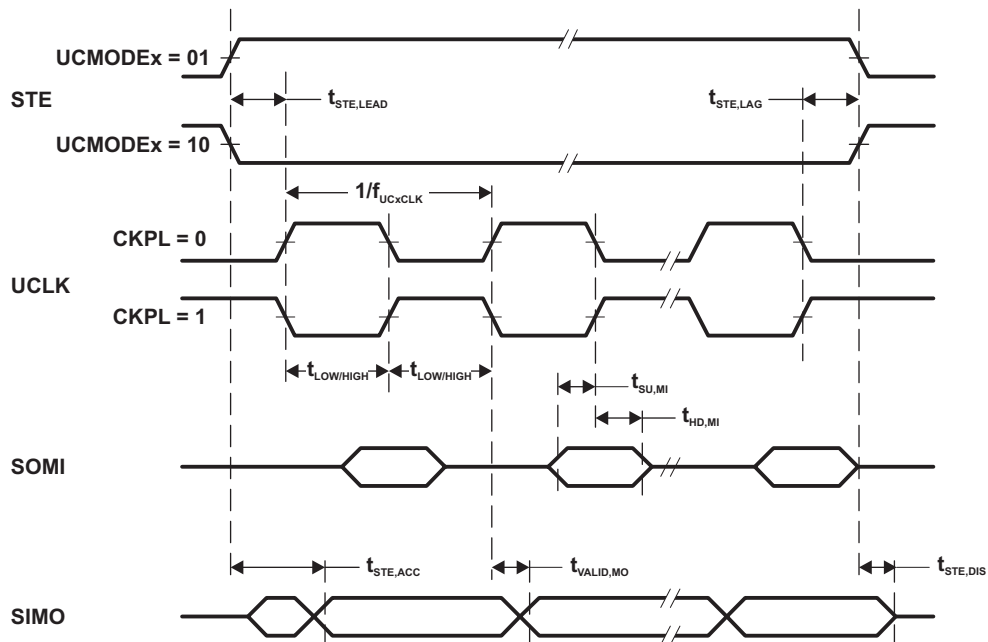

Figure 5-11. SPI Master Mode, CKPH = 0
- (2) Specifies the time to drive the next valid data to the SIMO output after the output changing UCLK clock edge. See the timing diagrams in Figure 5-11 and Figure 5-12.
- (3) Specifies how long data on the SIMO output is valid after the output changing UCLK clock edge. Negative values indicate that the data on the SIMO output can become invalid before the output changing clock edge observed on UCLK. See the timing diagrams in Figure 5-11 and Figure 5-12.